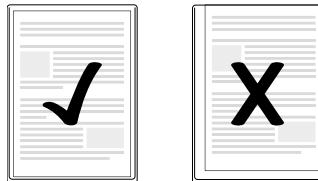

Fig. 1
- ▶ Ensure that all edges of the document have at least two millimetres of space to the edges of the laminating pouch, as shown in Fig. 1.
- Ensure that all edges of the document have at least two millimetres of space to the edges of the laminating pouch, as shown in Fig. 1.